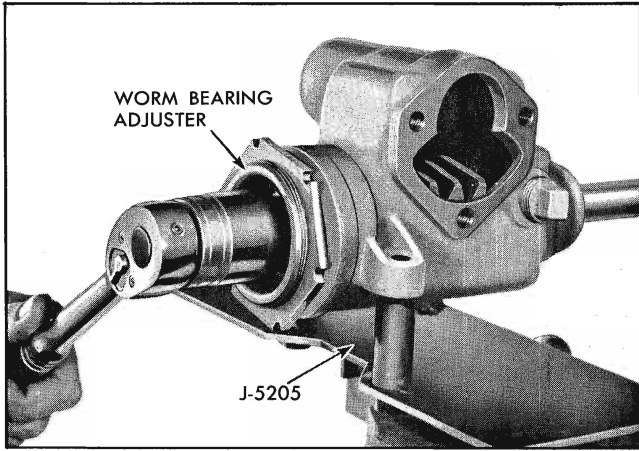

Fig. 9-35 Adjusting Worm Bearing Preload
b. If torque does not meet above specification, loosen worm bearing adjuster lock nut (Fig. 9-35) and turn adjuster to bring torque within 3/8 to 7/8 lb. in. limits.